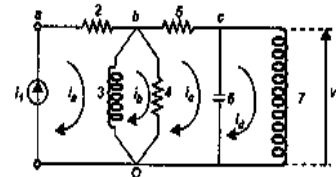

Fig. 4.5. An electrical system with multiple loops.
19. For the multiple loop electrical system described in Fig. 4.5 determine system equations.